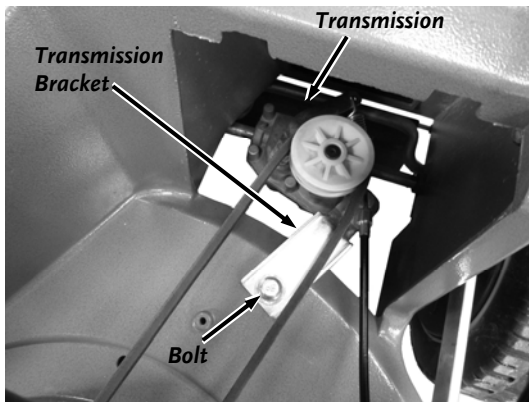

Figure 21
2. Remove the Transmission Bracket Bolt using a 12mm Wrench (Figure 21).